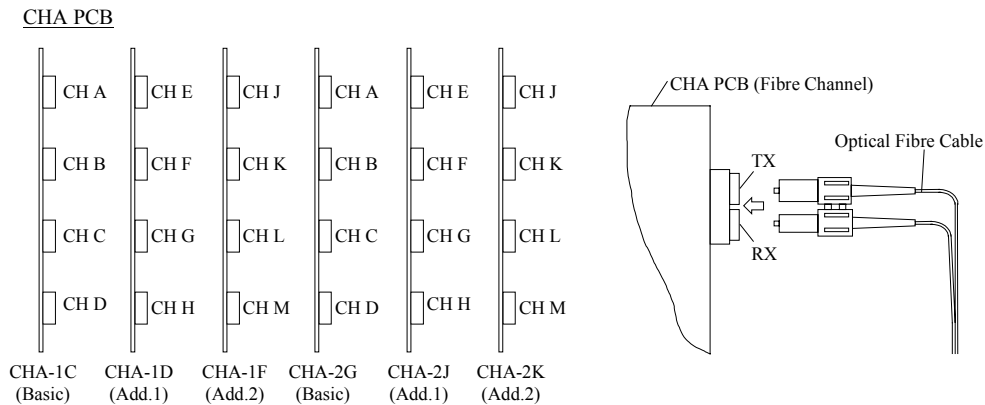

Fig. 3.6.3-4 Connection of Optical Fiber Cable
- Fix the cable to base and attach the cable clamp and bracket referring to Fig. 3.6.3-3.